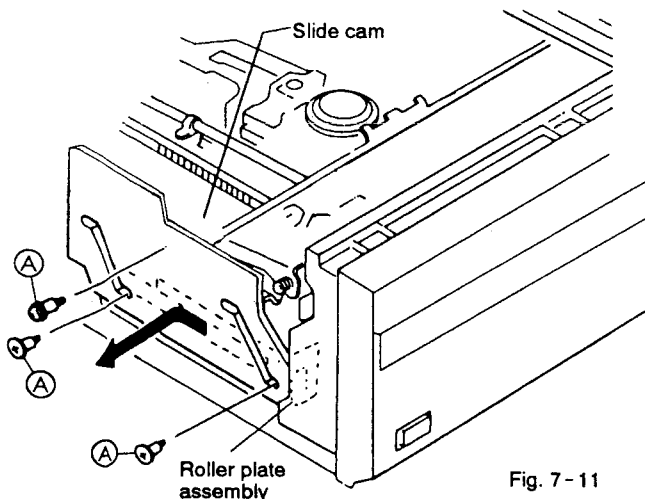

Fig. 7-11
**7.8 REMOVING THE SLIDE CAM AND ROLLER PLATE ASSEMBLY(Fig.7-11)**
- ① Set the player with the tray down.
- ② Remove three screws (A) and slide the slide cam toward the rear to remove it.
- ③ Remove the clamper arm (A) assembly (see page 77) after removing slide cam to remove the roller plate assembly.